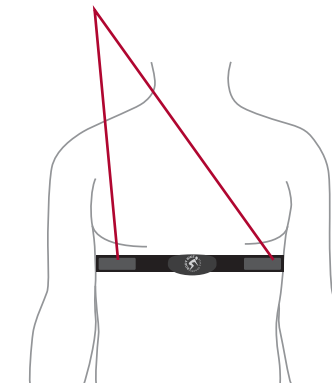

Figure 31
1: Put on your heart rate transmitter, see figure 31. The belt should be worn tight without causing discomfort. The electrodes must be moist and be placed just below the chest muscles.
- Ensure that the magnet is securely located on the flywheel in the correct position and that the path of the magnet passes over the arrow on the control box, see figure 31 on page 16.